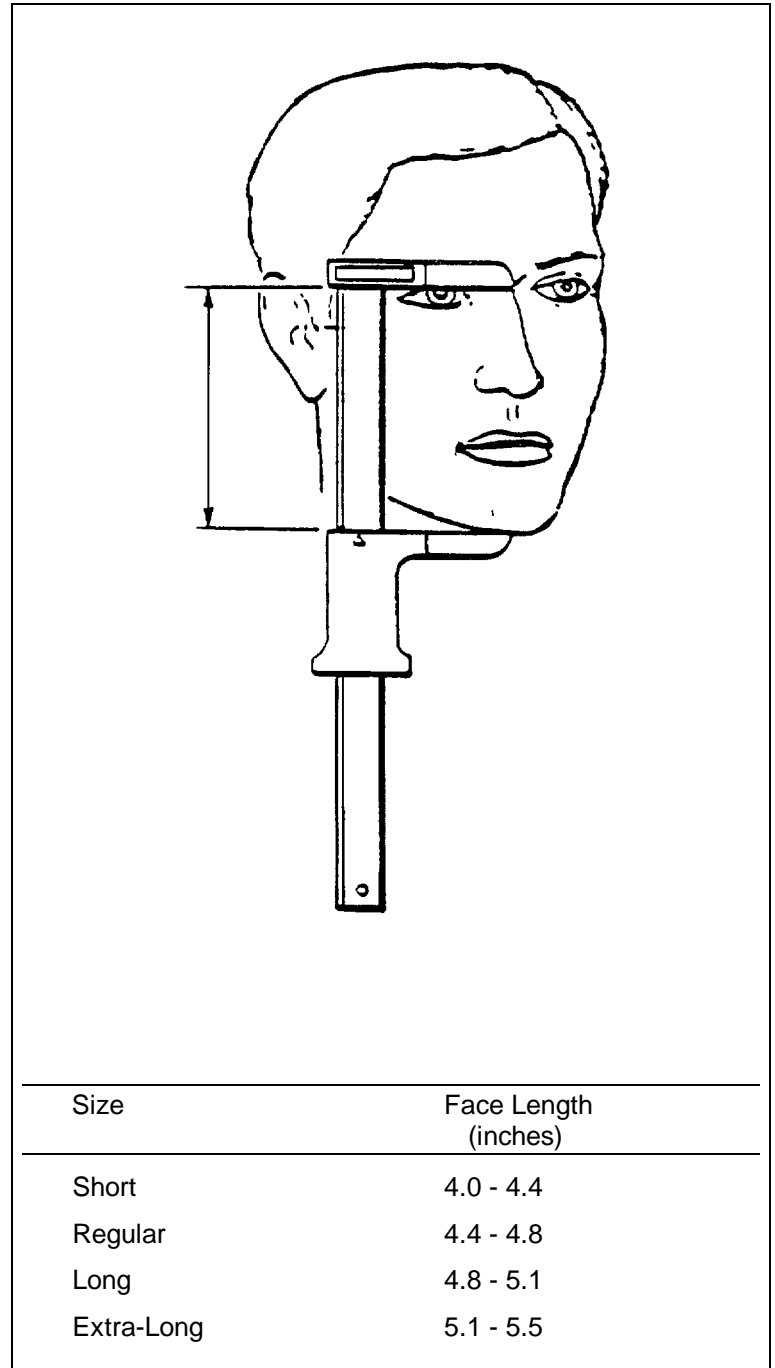

Figure 3-3. Measurement Procedure for Facemask
- (1) Measure distance from tip on underside of subject's chin to the maximum nasal root depression, using caliper, P/N 834-800. When indicated caliper is not available, use alternate caliper, P/N 450-100 or other suitable measuring device.
- (2) Measure caliper gap obtained in step (1) using a ruler.
- (3) Find measurement obtained in step (2) in the dimensional ranges contained in the tabular format on figure 3-3.